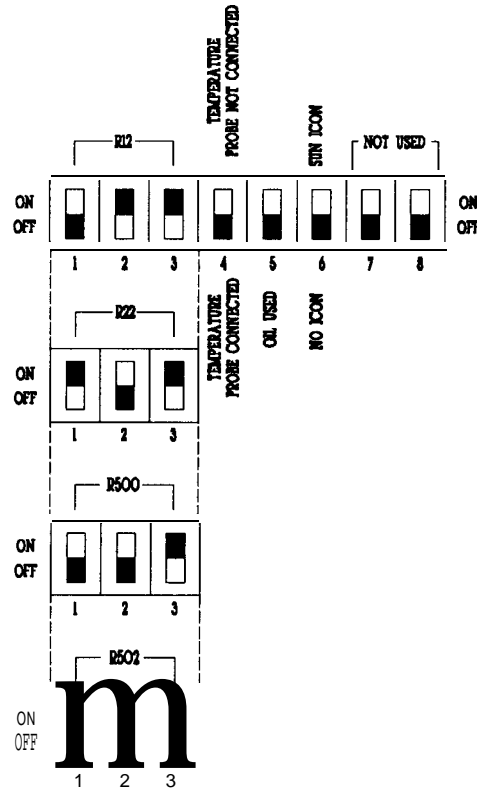

Figure 1. DIP Switch Settings
11. Press "TEMP'" Function key. If the left display is lighted, go to step 12. If it is not, change probe dip switch #4 on the Processor board (7001-2188-01) to **"OFF"**. Turn off the unit using the power switch on the rear of the unit to reset the computer for the new dip switch setting. Refer to Figure 1 on Page 3.